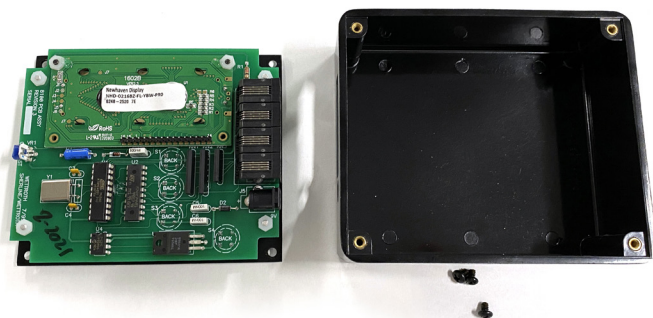

FIGURE 3
3. Remove the DRO control from the housing and place it face down on the table (see Figure 3).